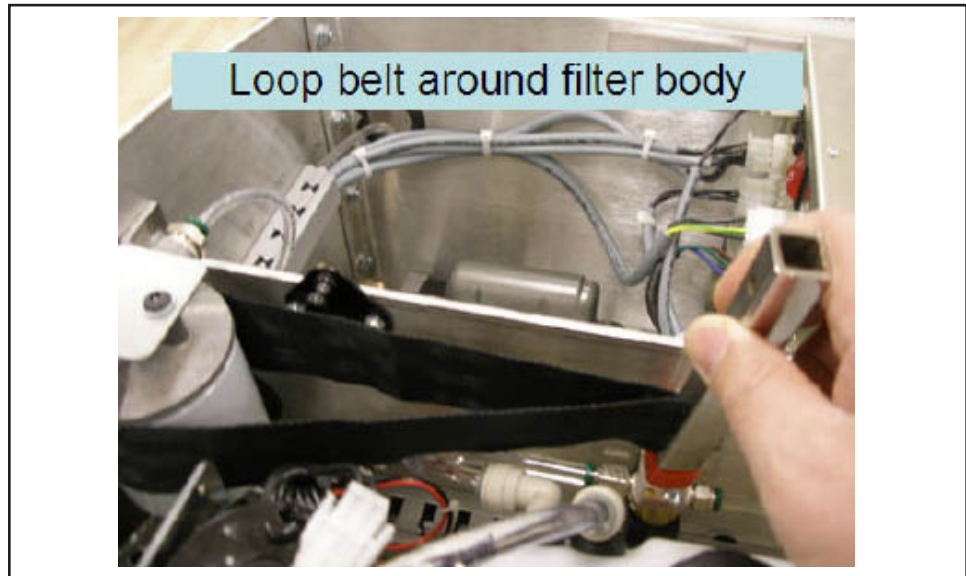

Figure 5-17
2. Place several shop towels under the Spin-On Oil Filter and with the filter housing mounted in the machine, remove by turning the filter counter clockwise as viewed from the top of the machine. If the filter can not be removed by hand, use a Strap Filter Wrench to remove. Drain and discard the filter. Refer to Figure 5-17.